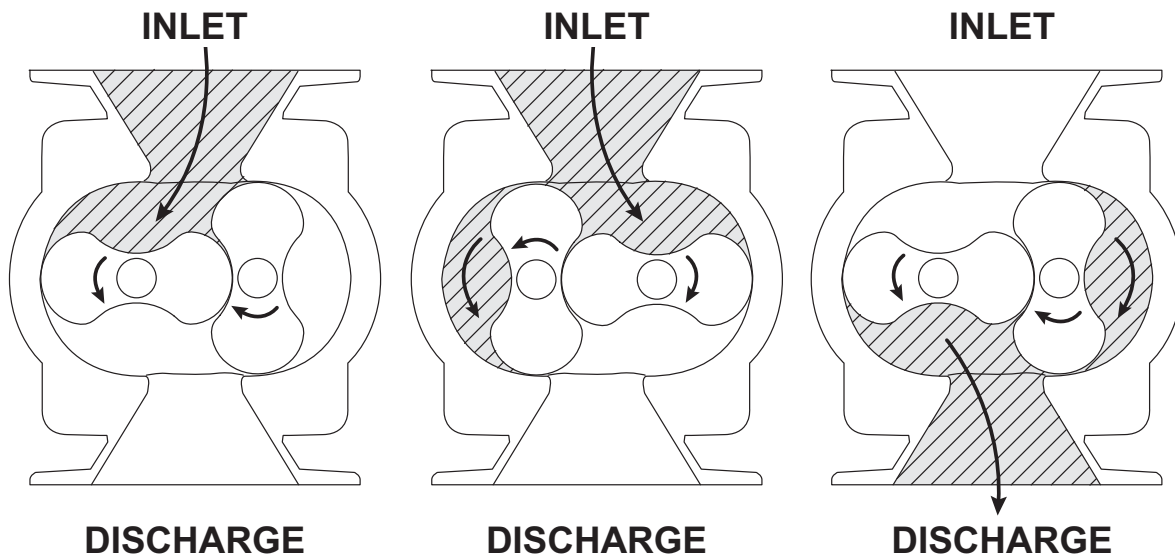

Figure 4-1 – General Operation Principle
**Figure 4-1** illustrates the air movement within the machine. In addition, the machine can operate in either direction.